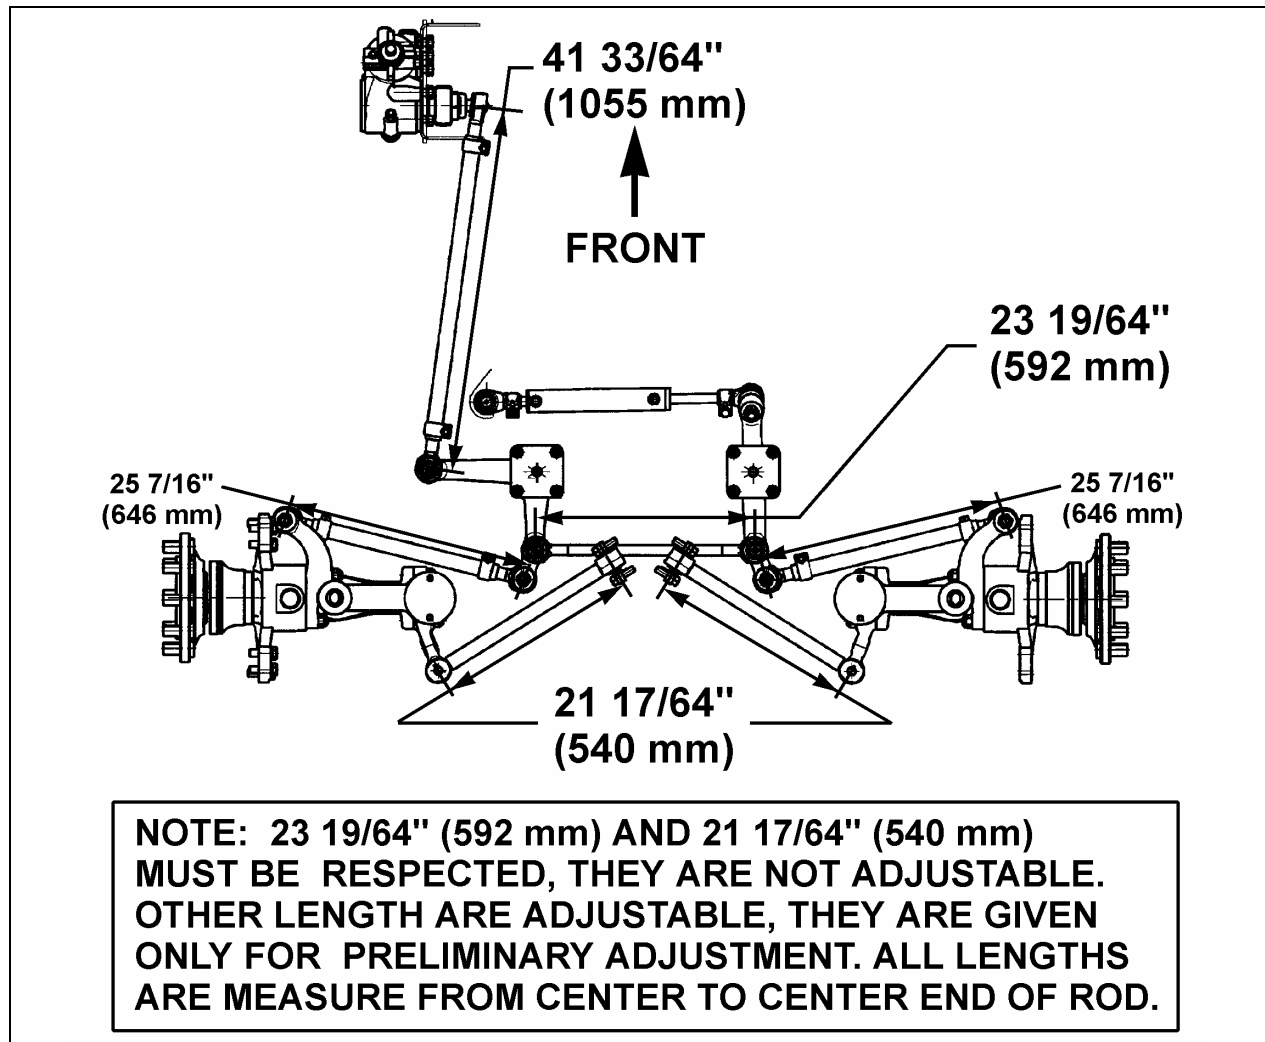

FIGURE 23: STEERING LINKAGE MEASURE
7. Check if the length of the torque rod is 21 17/64" (540 mm) (Fig. 23). Check if the length of the relay rod is 23 19/64" (592 mm)